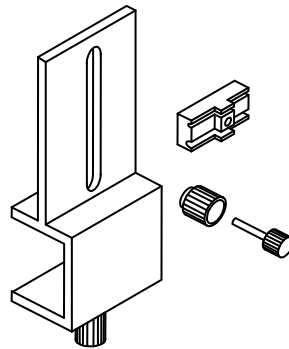

Fig.21 Disassembly of EZU-PA3U
- 2) Disassemble the EZU-PA3U (Fig.21) and immerse all parts in sufficient amount of high quality tap water. Scrub them using soft cloth to remove all visible soil and dried protein from their surface.